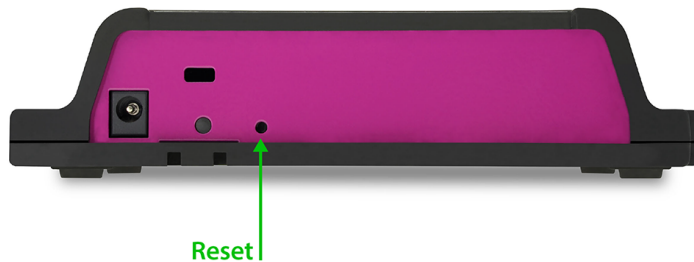

Figure 5.2: Reset button
- By briefly pressing the **reset button** on the device it toggles between static and automatic IP addresses. By pressing and holding the reset button (see figure 5.2) on the device for 3 seconds, it will reconfigure the unit to the factory default IP address and subnet mask. No other settings will be changed. The default IP address is 192.168.1.10 with the subnet mask set to 255.255.255.0.